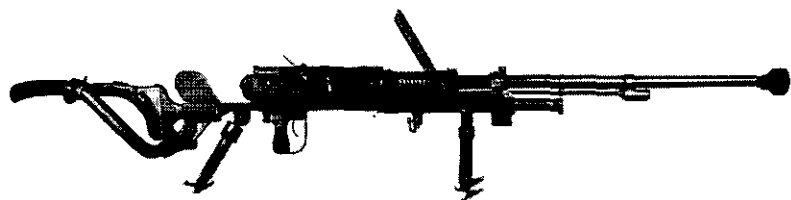

Figure 107.—Model 97 (1937) 20-mm antitank rifle with shield and rear carrying handles in place.
(1) *General.*—The Model 97 (1937) 20-mm antitank rifle is easy to conceal because of its low silhouette—16½ inches high, excluding the shield. It can be quickly moved from place to place by employing the two sets of removable carrying handles which fit into the brackets in the front and rear part of the weapon (figs. 107 and 108). Straps, which fit in between the handles and can be looped over a man's shoulder when the gun is carried, are also provided.